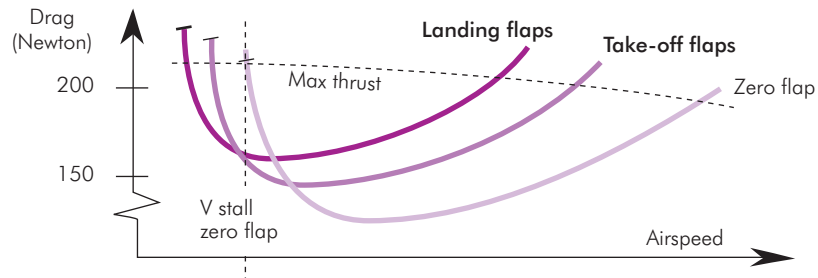

Fig. PF 4.8 Increased drag with flaps
- Use of flaps. Deployment of high lift devices will in most cases increase the drag. Only when being near or at speeds for stall for a clean wing can the use of flaps reduce drag somewhat. But during all other flight conditions, high lift devices reduce the lift/drag ratio. *Fig. PF 4.8.*